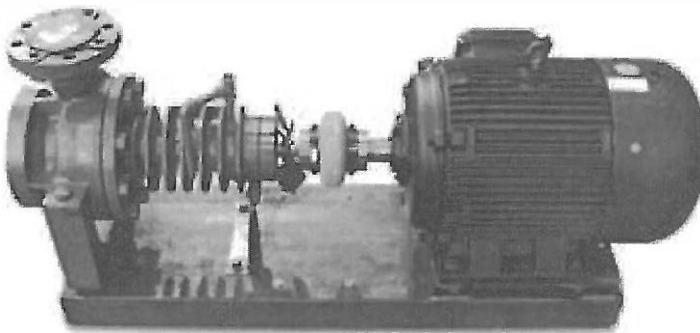

FIGURE 26 - WATER-COOLED THERMAL FLUID CIRCULATING PUMP
6. In systems utilizing a water cooled thermal fluid circulating pump, check level of lubricating oil in self-leveling reservoir and check cooling water circulation loop for proper operation. See Figure 26.